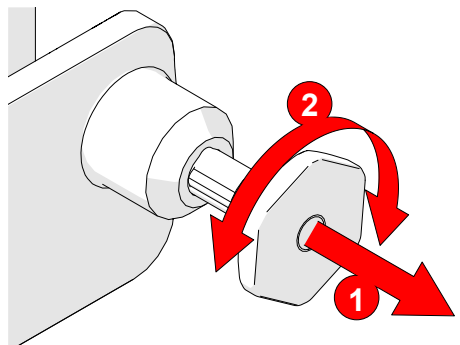

Fig. 215 - Pull latch pin and rotate
5. Pull the latch pin and slightly rotate the latch pin left or right (Fig. 215).